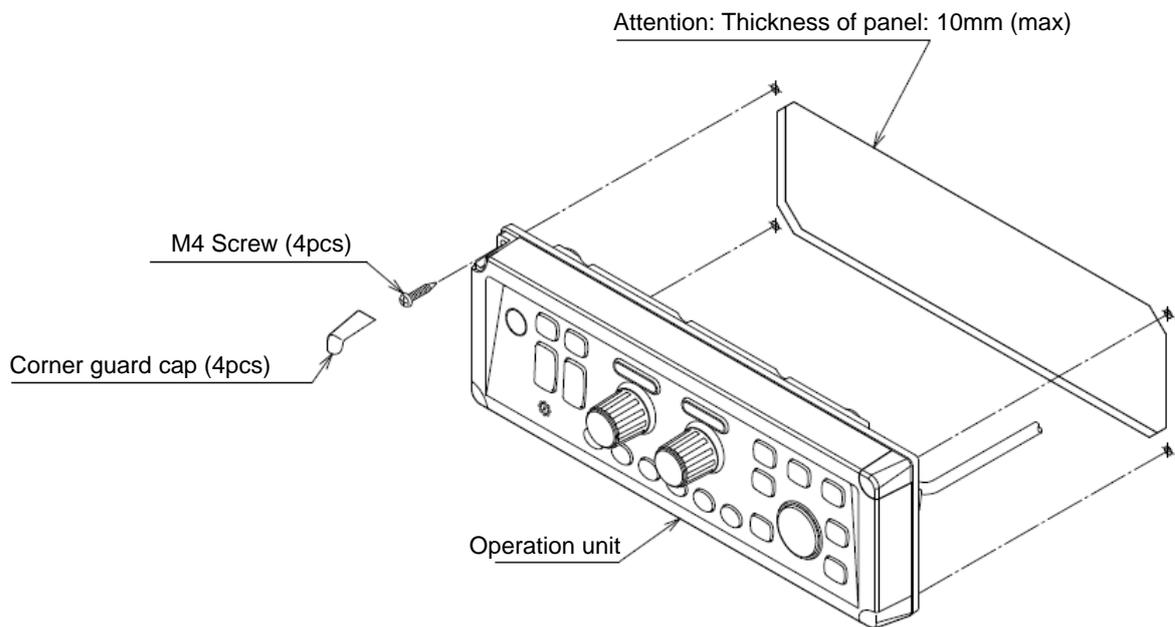
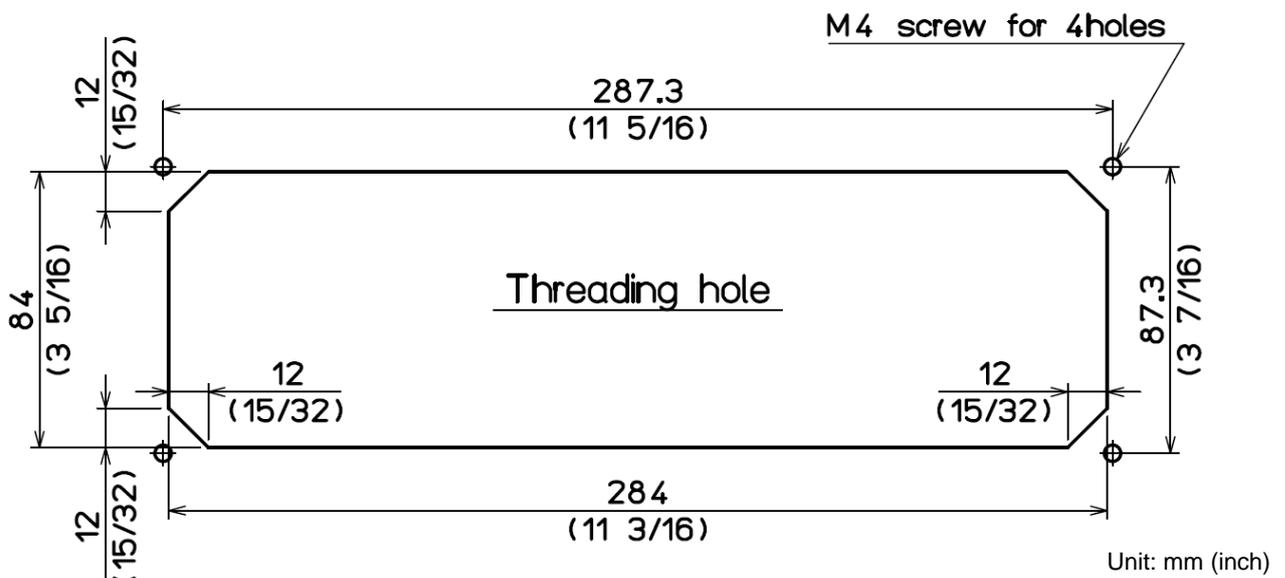

Fig. 1.9 Flush-mount installation of Operation unit
Fig. 1.10 Hole for flush-mount installation of Operation unit
- (1) Make a square hole at the location to be installed (See Fig.1.10)
- (2) Remove 4 plastic corner guard caps of the Operation unit (These can be easily pulled out upwards).
- (3) Confirm that the Operation unit matches the square hole. If not matches, correct the square hole.
- (4) Put the Operation unit and connected cable in the square hole, and set it to the position in which the Operation unit becomes parallel to the install panel. (Fig.1-9)
- (5) Install the Operation unit in the installing location (square hole) and fix it with 4 tapping screws (4mm) (M4 or pan-head). (Prepare 4 mm screws suitable for thickness of installing location.)
- (6) Install the corner guard caps removed in step (2).